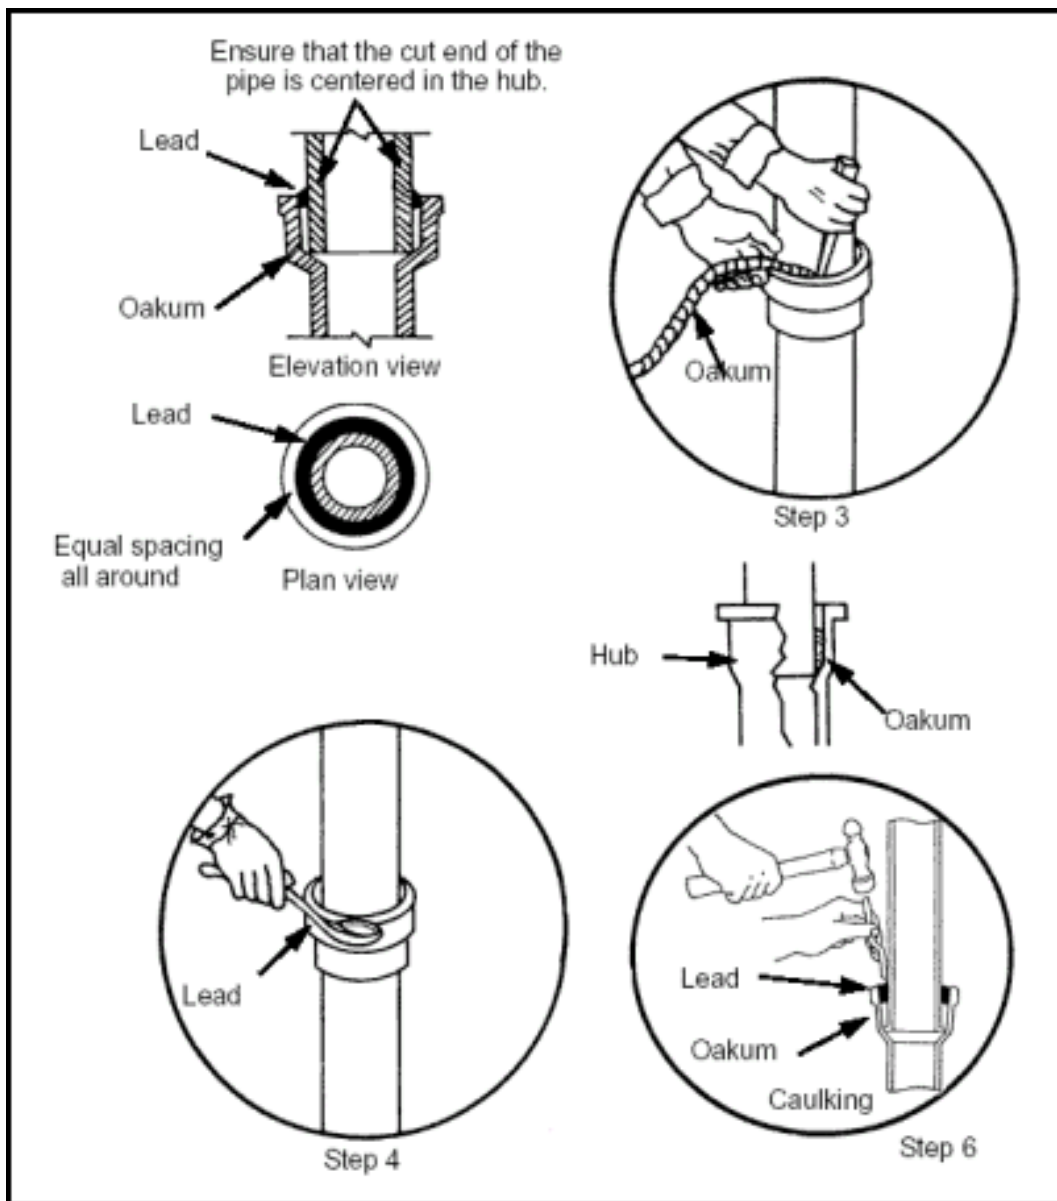

Figure 6-17. Vertical Lead Joint
6-42. Vertical Lead Joint. Use Figure 6-17 and the following steps to make a joint.
Step 3. Pack strands of oakum into the hub completely around the pipe or fitting with a packing iron to within 1 inch of the hub's end (Figure 6-17).
Step 4. Pour hot molten lead carefully into the hub in one pour, using a plumber's ladle (Figure 6-17).
Step 6. Caulk the lead against the pipe with the inside caulking iron and then against the hub with the outside caulking iron, as shown in Figure 6-17. The joint is then complete and leakproof.